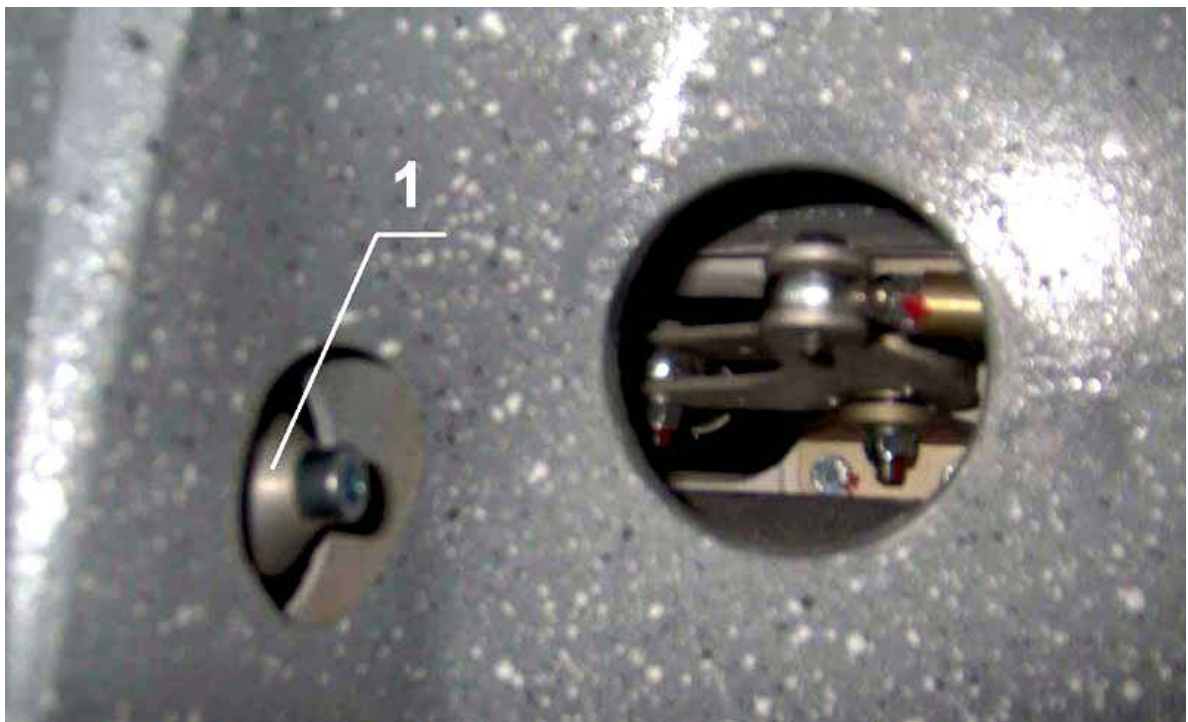

Fig. 14
- 13) Repeat item 11 for the second main bolt KA2000010.
- 14) Secure the main bolts with the cap and bolt, e.g. set the caps KA2000013 (1) onto the main bolts KA2000010 and fix them by bolts M8x35 C9996078A (Fig. 14). Torque value for the main bolts is 200 lb-in / 22,5 Nm.
- 15) Match the holes in the tip SMC6 of the rod KA6020050R with holes of the right wing lever KA6020040R (Fig. 14).